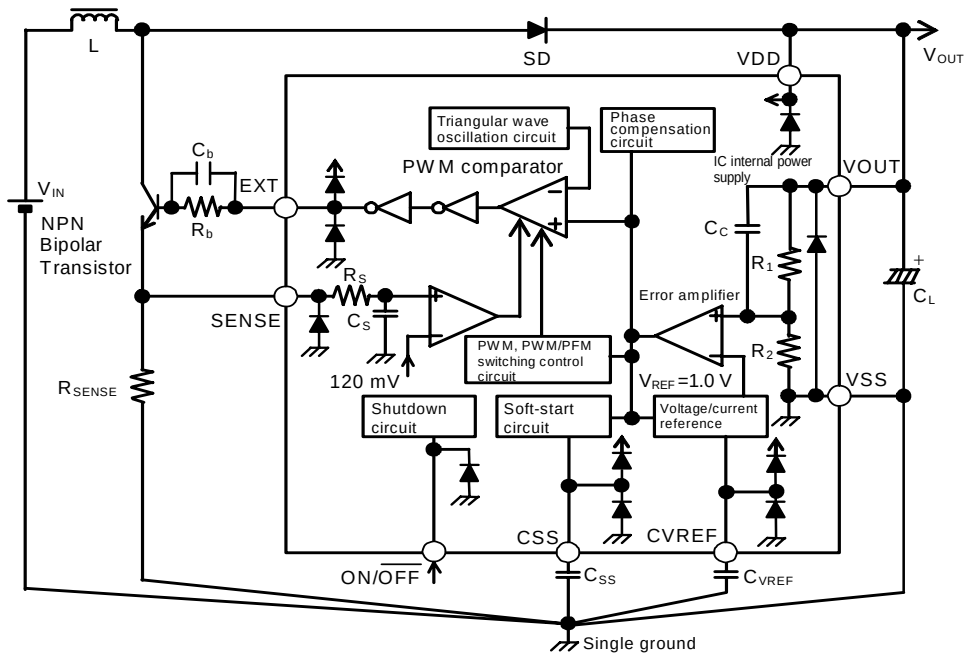

Figure 16 Output Voltage Fixed Output Type
Figures 16 and 17 in "■ Standard Circuits (2) Using Bipolar Transistors" show sample circuit diagrams using Sanyo Electric Co., Ltd. 2SD1628G for the bipolar transistor (NPN). The driveability for increasing the output current by means of a bipolar transistor depend on the h_{FE} and R_b values of that bipolar transistor.
In addition, if a speed-up capacitor (C_b) is inserted in parallel with the resistance (R_b) as shown in **Figures 16 and 17**, the switching loss will be reduced, leading to a higher efficiency.